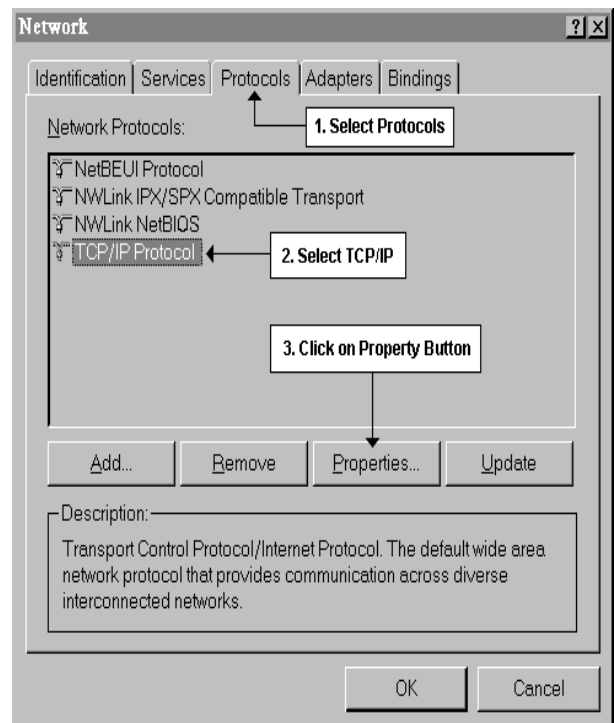

Figure 3-8 Windows NT â
- b. For Windows NT®: Select **Protocols| TCP/IP Protocol| Properties**. (Figure 3-8)